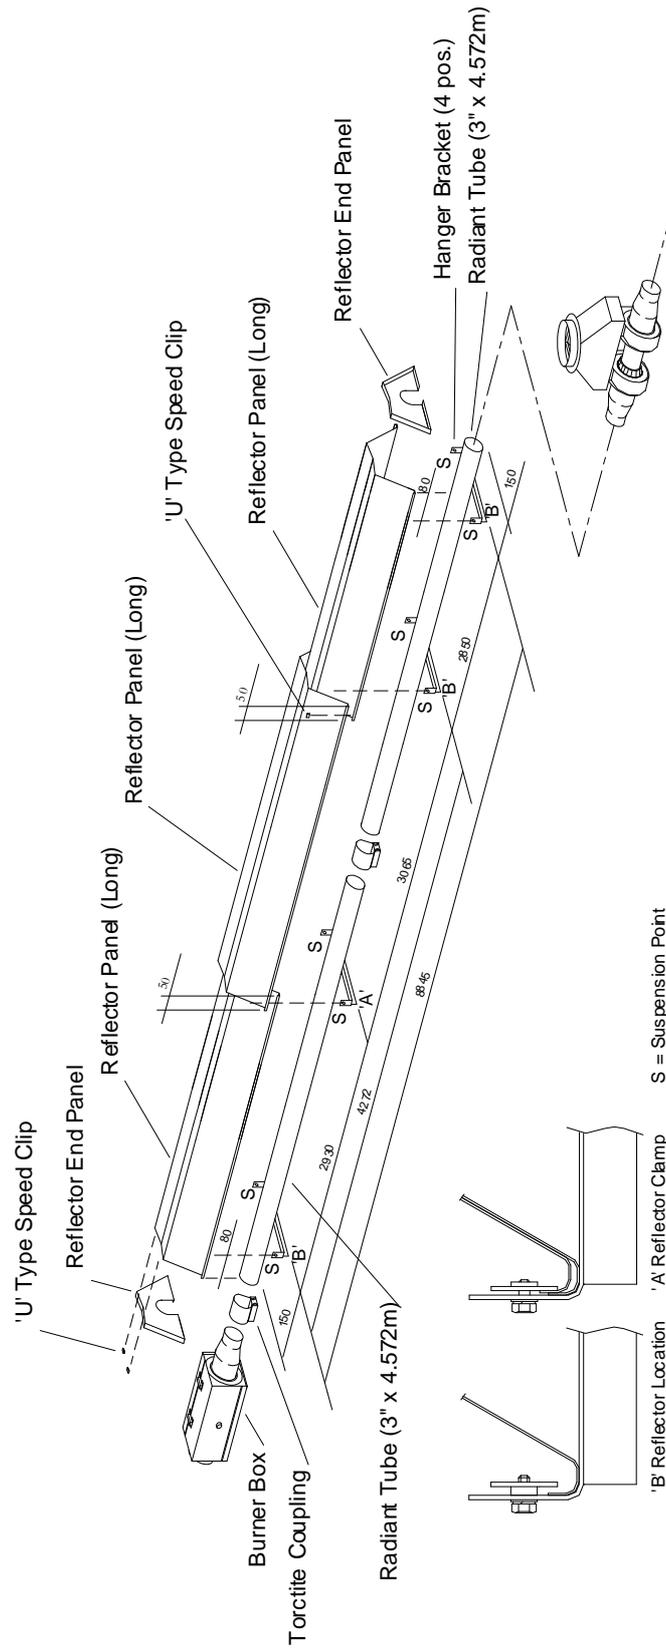

Fig. 11
- 4.2.2 Place two Radiant Tubes on trestles, providing 150mm minimum clearance above the floor and assemble two Hanger Brackets to each of the Radiant Tubes using one U bolt per bracket (from fastenings pack) and position along the Radiant Tubes as shown in Fig. 11. Ensure that the welded seam of the tubes is in contact with the Hanger Bracket i.e. facing away from the reflector. Tighten the nuts sufficiently to retain the Hanger Brackets. Do not overtighten.
- 4.2.4 The two sections should now be raised and suspended from previously fixed chains or drop rods as detailed in Section 3.1, at suspension points indicated in Fig. 11 & 12. Rope or webbing should be used when lifting from above. If using a forklift to position the appliance sections, ensure that they are balanced on the forks prior to lifting.
- 4.2.5 Place a Torctite Coupling over the open end of one Radiant Tube ensuring that it engages fully, up to the stop. Assemble the second Radiant Tube into the Torctite Coupling ensuring that it engages fully, (up to the stop), with the Hanger Brackets aligned with those of the first Radiant Tube section (see Fig. 11). Tighten the screws of the Torctite Coupling to secure the two sections of Radiant Tube to one another, taking care to maintain the tubes in a straight line.
- 4.2.6 Place two of the Reflector Panels onto the Hanger Brackets and position their outer edges such that they overhang the outer Hanger Bracket by 80mm (see Fig. 11). Place the third Reflector Panel over the two previously positioned Reflector Panels to provide a 50mm overlap at each end. Clamp the first and second Reflector Panels, where they overlap, to the second Hanger Bracket, (from Control Box) using two retainers and M6 setscrews and washers (fastenings pack). Secure the outer end of the centre Reflector Panel to the Reflector Panel furthest from the Control Box, using two 'U' type speed clips (from fastenings pack) as shown in Fig. 11. Screw the remaining (6) retainers to each of the other Hanger Brackets to provide **location** for the Reflector Panels as shown in Fig.11.
4.2.7 Position one Reflector End Panel over the Radiant Tube and into one end of the Reflector Panels with the End Panel flange flush with the end of the Reflector Panel. Secure the Reflector End Panel to the Reflector Panel by the use of six 'U' type speed clips provided (fastenings pack); as shown in Fig. 11.